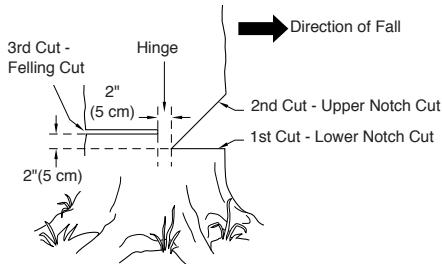

Figure 12 - Felling A Tree
A properly placed felling notch will determine direction tree will fall. Place felling notch on side of tree in direction you want tree to fall (see Figure 12). Follow directions below to create a felling notch.
- Make lower notch cut as close to ground as possible. Hold saw so guide bar is horizontal. Cut 1/3 the diameter of tree trunk (see Figure 12). **Note:** Always make this horizontal lower notch cut first. If you make this cut second, tree can pinch chain or guide bar.
- Example:** If lower notch cut is eight inches deep, start upper notch cut eight inches above it. Cut downward at 45° angle. The upper notch cut should meet end of lower notch cut (see Figure 12).
- Make felling cut two inches higher than lower notch cut and on opposite side of tree (see Figure 12). Keep felling cut parallel to lower notch cut.
**⚠ WARNING: Do not cut all the way through tree. Leave about two inches of tree diameter uncut directly behind felling notch (see Figure 12). This uncut portion acts as a hinge. The hinge helps keep tree from twisting and falling in wrong direction.**